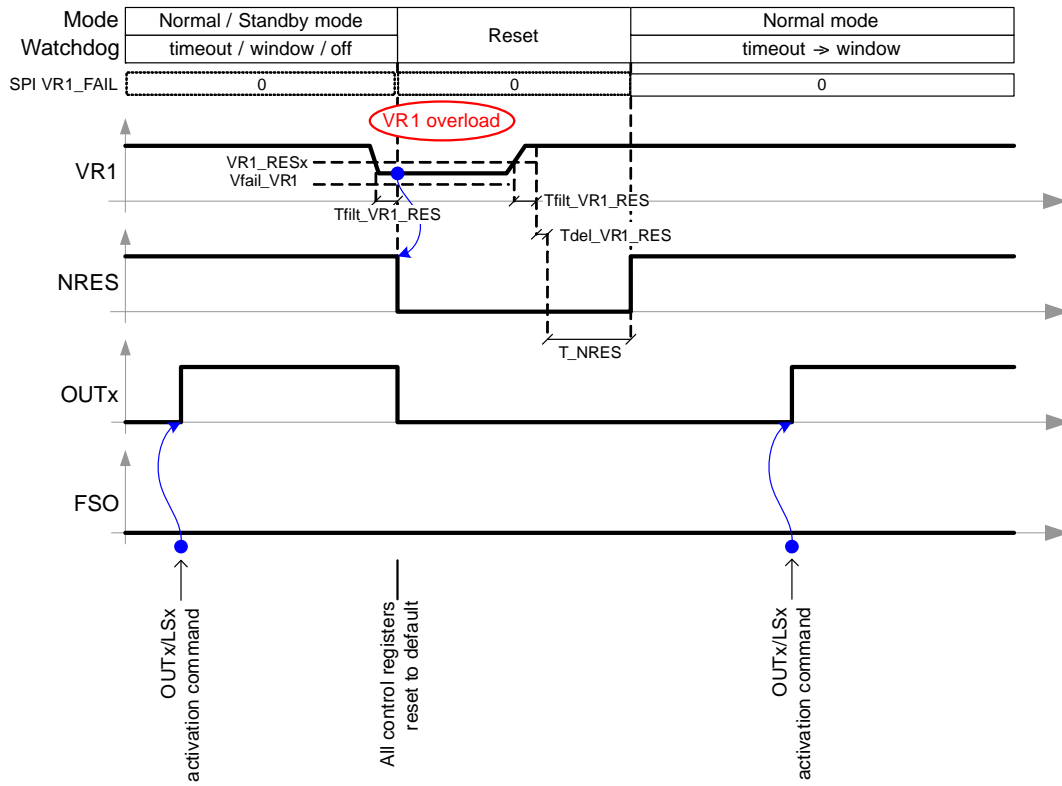

Figure 11. VR1 Monitoring – VR1 Undervoltage
- VR1 Reset Comparator – the VR1 regulator output is compared with a reset level $VR1_RES$ (programmable to typ. 74%, 79%, 87% and 91% of the nominal VR1 voltage). If the VR1 level drops below this level for longer than $T_{filt_VR1_RES}$ (typ. 16 μ s), a reset towards the MCU is generated through the NRES pin and all outputs (OUT1–3, LS1/2) are switched off and all the control registers are set to their defaults, except “FSO_DIS” bit setting (see Figure 11).